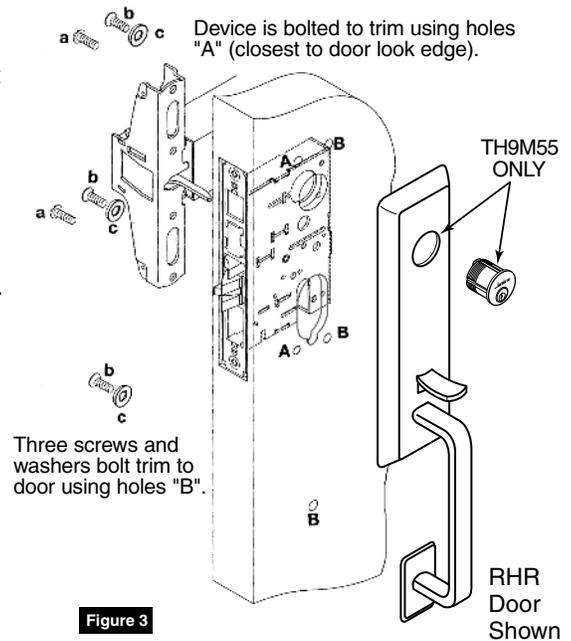

Figure 3
6. Mount trim to door through holes "B". Fasten, finger tight only, with three (3) screws and washers seating on door, as shown. (Figure 3)
Thread cylinder into mortise lock until seated within escutcheon recess with keyway positioned vertically and with plug in lower cylinder as shown. (Figure 3)